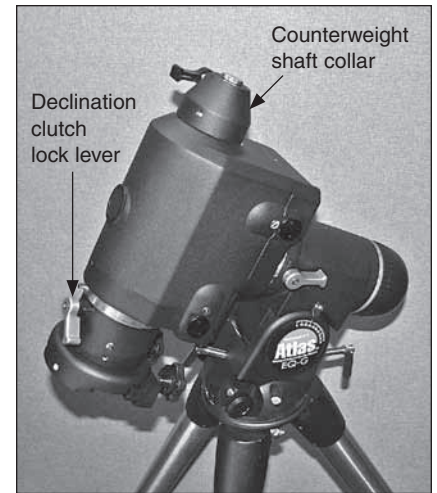
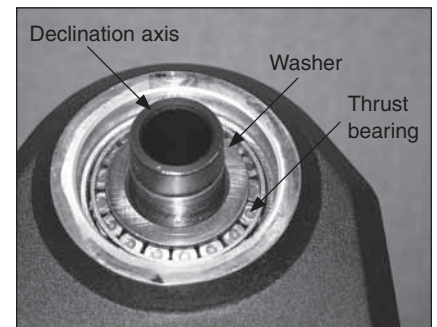

Figure 2. Turn the EQ head upside down before removing the counterweight shaft collar.
Figure 4. View of the thrust bearing after the counterweight shaft collar is removed.
1. Rotate the EQ head on its RA axis so that the counterweight shaft collar is pointing upward (**Figure 2**). Doing this will prevent the thrust bearing inside from falling out when the collar is removed.
3. Make sure that the declination clutch lock lever on the mount is tightened (see **Figure 2**), then unthread the collar with the attached counterweight shaft by turning it counterclockwise and remove it from the housing. It may take a bit of torque to get it started! With the collar removed the end of the declination axis and a thrust bearing and washer are exposed, as shown in **Figure 4**.
1. With the EQ head still rotated “upside down” on the RA axis as is **Figure 4**, thread the new counterweight shaft collar onto the mating threads of the declination axis as shown in **Figure 5**. Make sure first that the three setscrews in the new collar are backed out so that they won’t contact the declination axis.